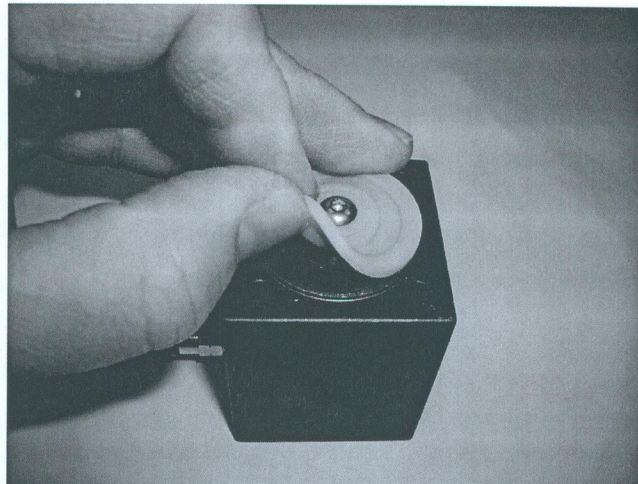

Fig 14
- Pull the old valve seal off the retaining screw. Refer to fig 14